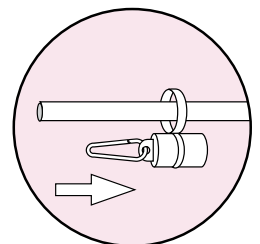
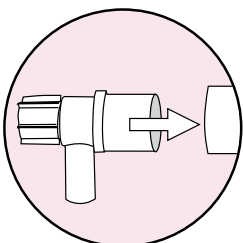
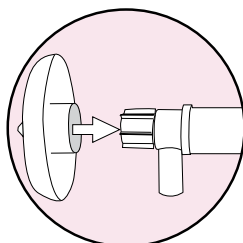

Fig 4a.
Fig 4b,
Fig 4c,
- 4, Place weight over pole (see fig 4a), mount rotating joint onto top of pole (see fig 4b), push on finial. (see fig 4c)